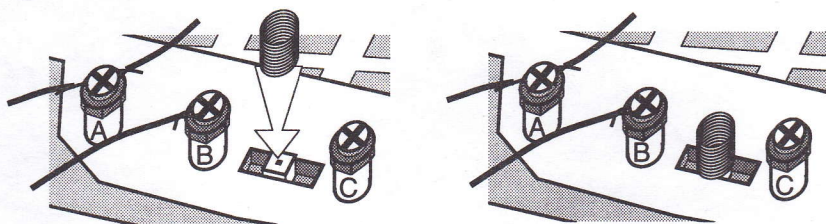

FIG. 7
- 2) Slip the large spring spacer over the square protrusion. This holds the slider in place. (Figure 7)